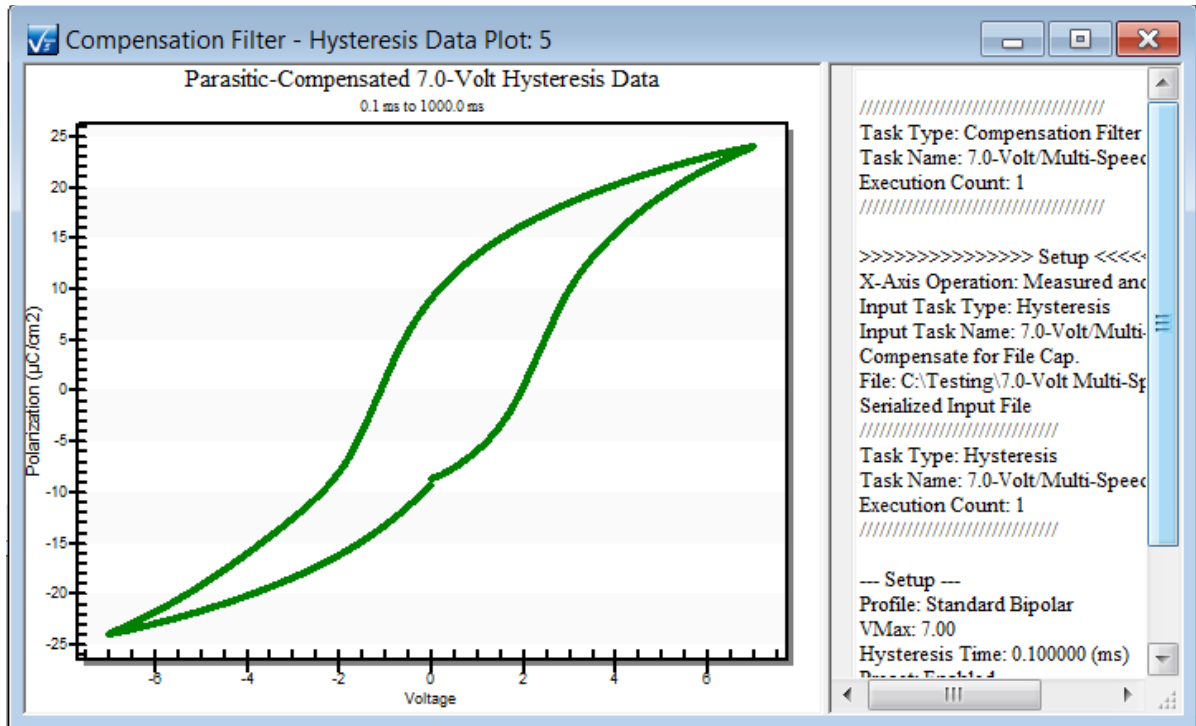

Figure 12 - 1000.0 ms Compensated Hysteresis Data.
- The experiment will sequence by iterating five times over the Hysteresis Task and Compensation Filter Task. Hysteresis Execution will be indicated by the "ACTIVE" lamp extinguishing, perhaps repeatedly, on the tester front panel and by an indication on the main Vision window Status Bar. A *Stop Measurement* button will also appear. The Compensation Filter will generate a plot window each time it executes. The data on the window represent the measured Hysteresis Data, with the data from the appropriate serialized parasitics input file subtracted. In the figures the compensation is not significant. Note that the figures show, in sequence, 201-point data, 2001-point data, 6665-point data and 8001-point data. **Figure 12** is also at 8001 points.